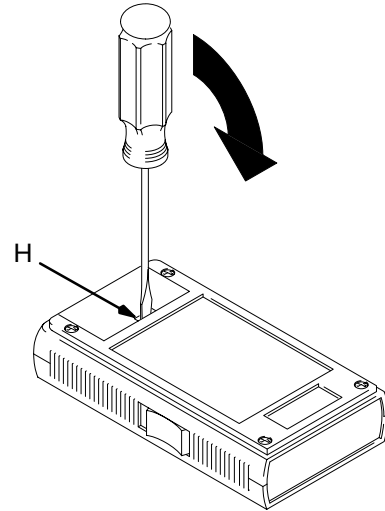

Fig. 4
2. Place a small screwdriver fully into the SVR battery cover slot (H) and gently press forward to release the latch. See Fig. 4.